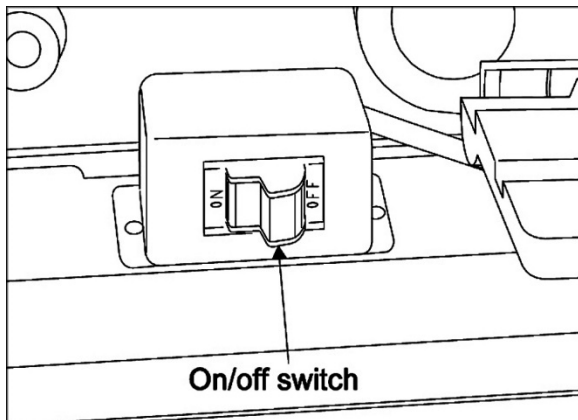

Figure 8: On/Off switch
The on/off switch (see Figure 8) is mounted in a switch box on right side of sander base. Move switch to forward (ON) position to start sander. Move switch to rear (OFF) position to stop sander.